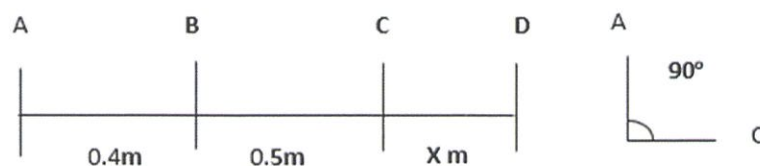

Figure 4(b) / Rajah 4(b)
- CLO1 (b) From Figure 4(b), a rotating shaft carries four masses A, B, C and D, rigidly attached to it, the centers of mass are at 30mm, 36mm, 39mm and 33mm respectively from the axis of rotation, A, C and D are 7.5kg, 5kg and 4kg, the axial distance between A and B is 400mm and that between B and C is 500mm the eccentricities of A and C are at 90° to one another. Express: